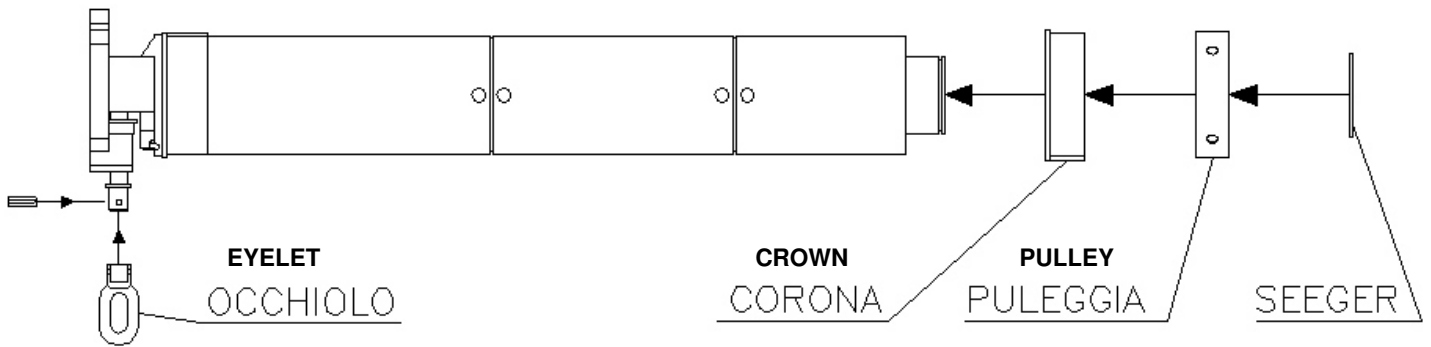

fig. 1
- Fit onto the motor the crown, pulley, seeger ring and where necessary, the eyelet for the emergency manoeuvre; (fig. 1)